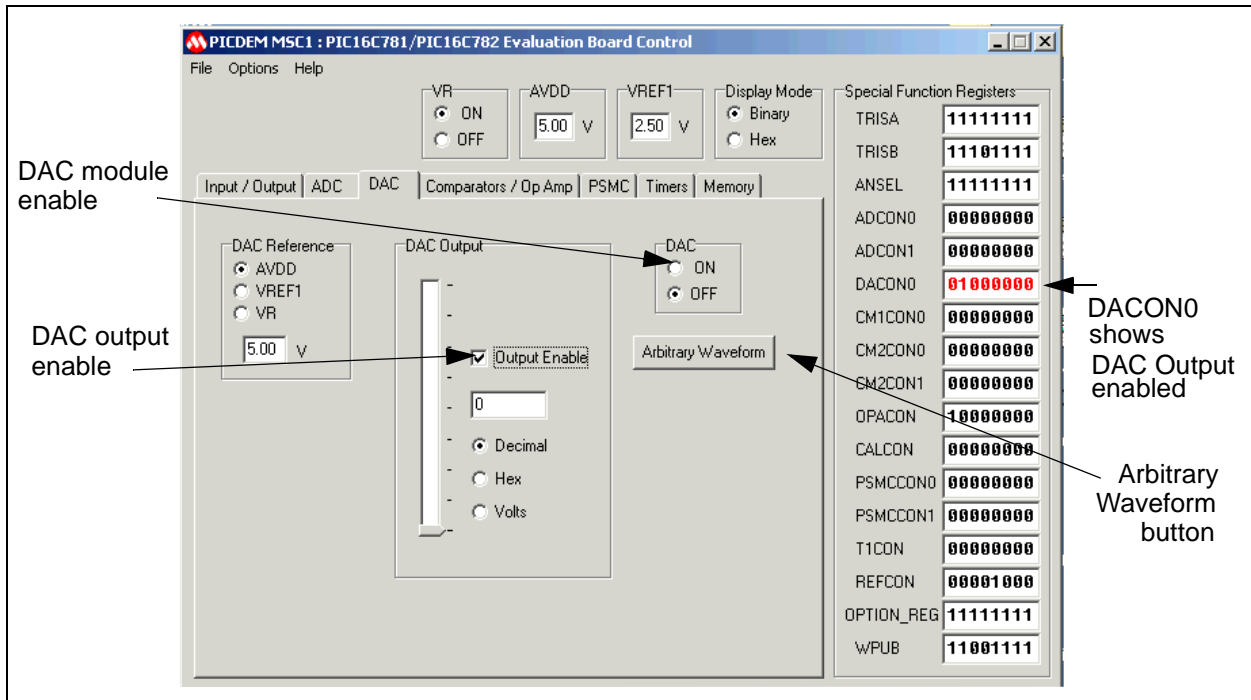

Figure 3.3: DAC Setup Initial Display
- Select the DAC tab on the Evaluation Tool Control Panel. The Control Panel displays the DAC controls, as shown in Figure 3.3. Note the DAC output is shown enabled.
The Control Panel changes to appear as shown in Figure 3.3.